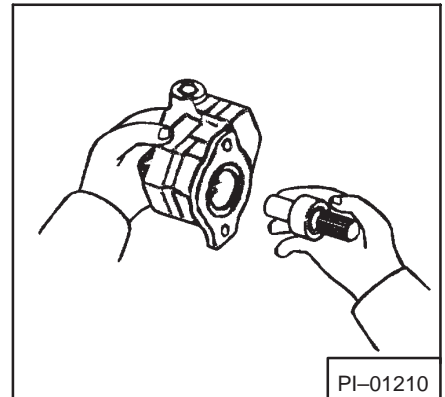

Fig. 27 Pulling Drive Shaft From Pump
3. Pull the pump drive shaft out of the pump (Fig. 27). The ball bearing will come with it.